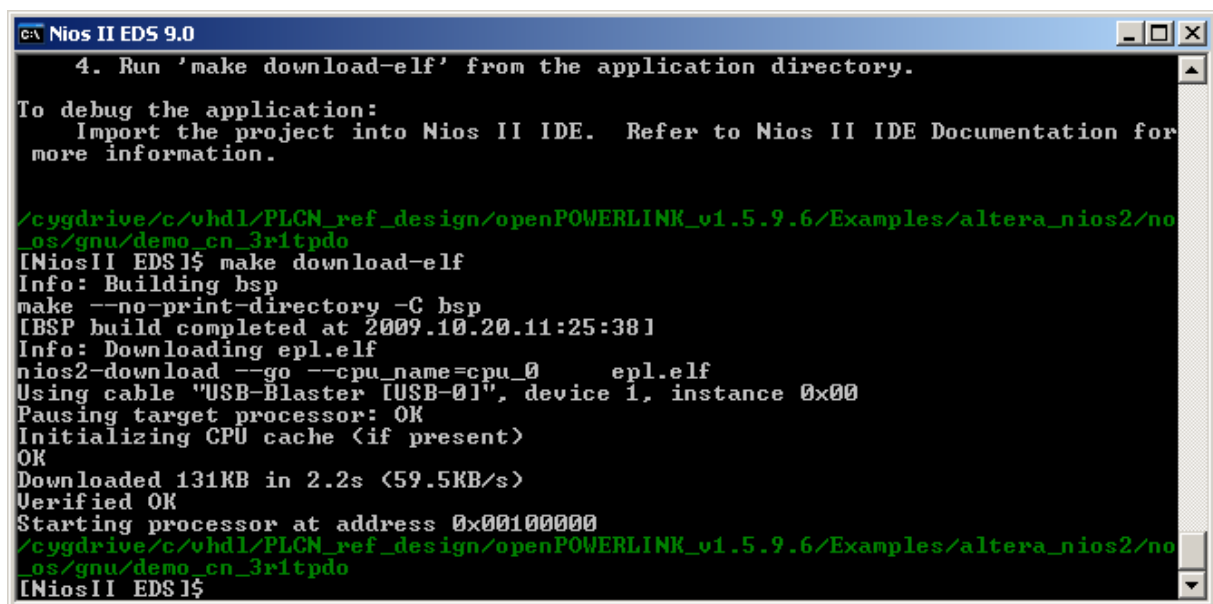

Figure 5-4: command shell download application
3. Verify if the elf-download was done without any error (refer to Figure 5-4).